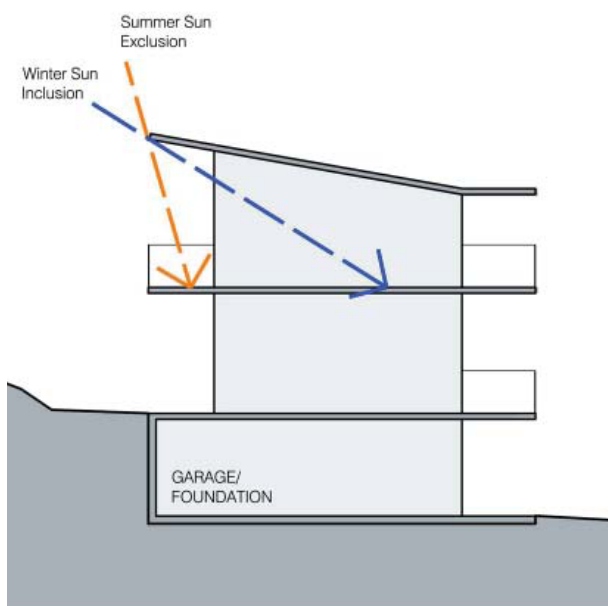

Fig. 2.5.2
- (a) winter sun inclusion (Fig. 2.5.2);
- (b) summer sun exclusion (Fig. 2.5.2);